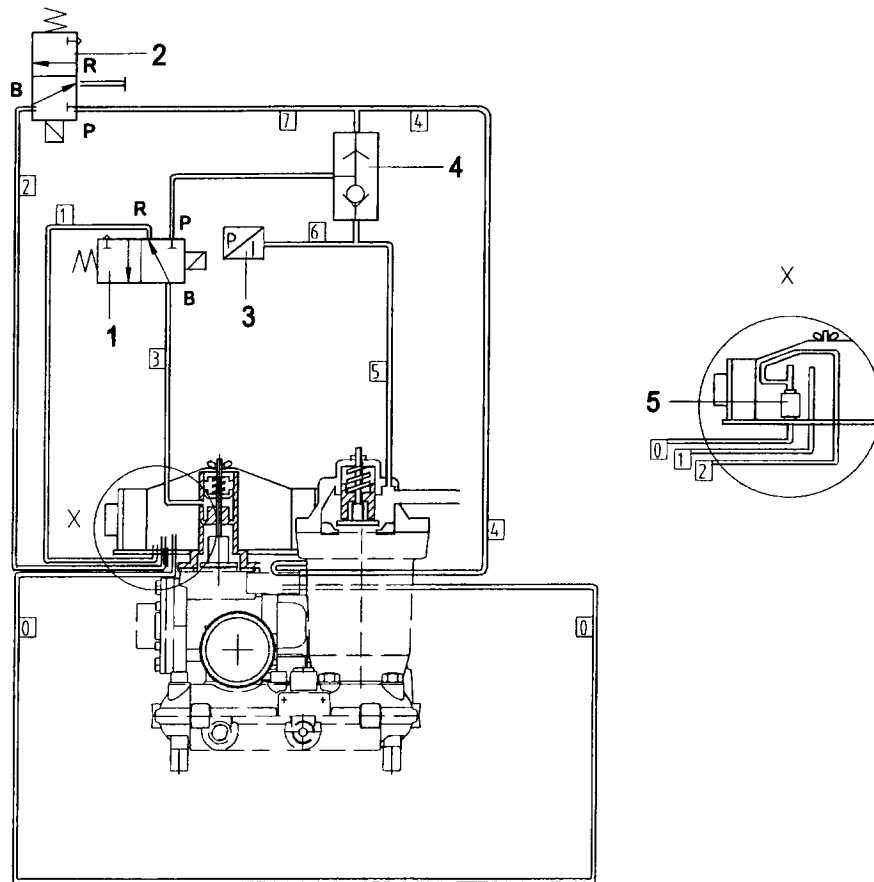

Figure 4-4 – COMPRESSOR RUNNING LOADED
Blowdown Valve (Figure 4-4, page 37) - This valve is normally used for control functions, but also serves to relieve air/oil reservoir pressure following a shutdown. The blowdown valve is a pneumatic operated valve which is piped into the air/oil reservoir, ahead of the minimum pressure check valve. When the valve is open, the system blows down. When the valve closes, the system pressurizes.
Inlet Valve Solenoid (Figure 4-4, page 37) – This valve controls the position of the inlet valve in response to signals from the controller. When the inlet solenoid valve is energized, after a delay of 2 seconds, it allows the pressure to escape from below the inlet valve piston. A partial vacuum is formed in the inlet line, the inlet valve opens and the compressor runs loaded. When the inlet solenoid valve is de-energized, it allows system pressure under the inlet valve piston, through the shuttle valve, closing the inlet valve.
Blowdown Solenoid Valve (Figure 4-4, page 37) – This valve is normally used for control functions, but also serves to relieve air/oil reservoir pressure following a shutdown. The blowdown solenoid valve de-energizes, opening the blowdown line from the air/oil separator housing, whenever the inlet valve solenoid de-energizes and closes the inlet valve or whenever the machine is shutdown. The blowdown solenoid valve energizes to close the blowdown valve when the inlet solenoid valve opens the inlet valve.
Shuttle Valve (Figure 4-4, page 37) – This valve, also known as a double check valve, is a device which will take two (2) supply signals and allow the one with the highest pressure to pass through. The shuttle valve is used to provide control air pressure from either the reservoir or plant air system, as required during different operating conditions.
Pressure Transducer (Figure 4-4, page 37) – This transducer is connected after the minimum pressure/check valve. It converts the pressure in the plant air system into an electrical signal for use by the controller.